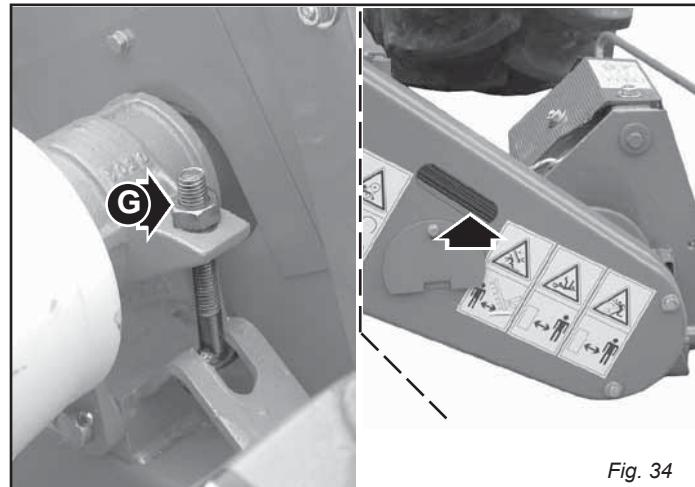

Fig. 34
- Adjust belt tension periodically by adjusting nut (G, Fig. 34). Check tension via the viewing panel on the belt guard. Belt slack must not exceed 2 cm. It is essential to close the inspection hatch with the relative lid after the belts have been examined.